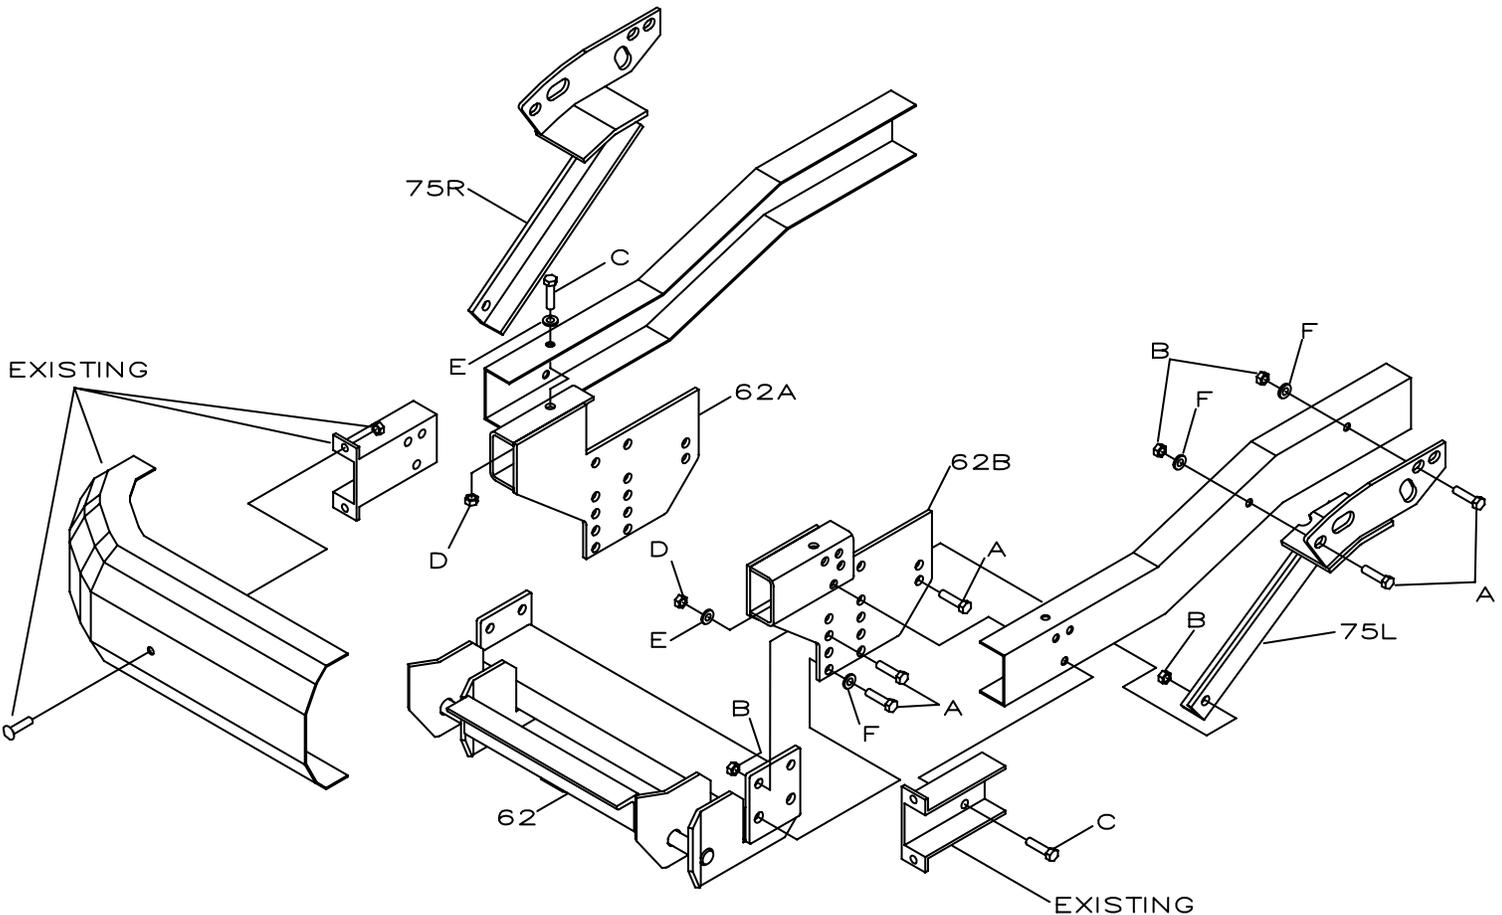

Figure 1
3. Position the PUSH BEAM SUPPORT PLATES (Ref. 62A and 62B, Fig. 1) and Front Bumper Mounting Brackets on the Frame Horn and attach using 1/2" – 13 x 2" HEX HEAD BOLTS, 1/2" – 13 HEX HEAD SELF LOCKING NUTS, and 1/2" FLAT WASHERS as shown in Figure 1. Note that 3 bolts attach through the side of the Frame Horn, and one bolt through the top of the Frame Horn.
4. Position the PUSH BEAM (Ref. 62, Fig. 1) between the PUSH BEAM SUPPORT PLATES using 5/8" – 11 HEX HEAD SELF LOCKING NUTS. The lower set of holes on each side of the push beam has a weld nut inside the push beam. A 5/8" LOCK NUT MUST BE USED ON THE LOWER 2 BOLTS ON EACH SIDE OF THE PUSH BEAM.
5. Position the ANGLE BRACKET (RH) (Ref. 75R, Fig. 1) between the frame rail and PUSH BEAM SUPPORT PLATE. Bolt the ANGLE BRACKET to the PUSH BEAM SUPPORT PLATE using 5/8" – 11 x 2" HEX HEAD BOLTS and SELF LOCKING NUTS.